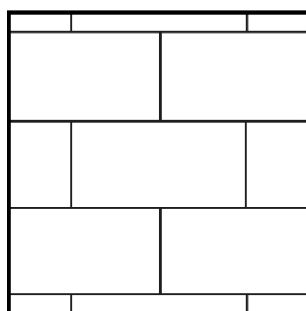
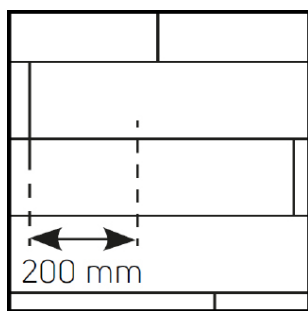

FIG 3A
FIG 3B
4. Start the second row by clicking the tongue into the groove holding the plank at an angle (approximately 30°), then push the plank/tile firmly into the groove of the first row. Install the next plank/tile by clicking the tongue and groove together along the short edge. Ease the tongue and groove together on the long side by angling the planks/tiles together (Fig. 3). Tiles and planks should be installed 'off-set' such that four corners never meet (Fig. 3a and Fig. 3b).